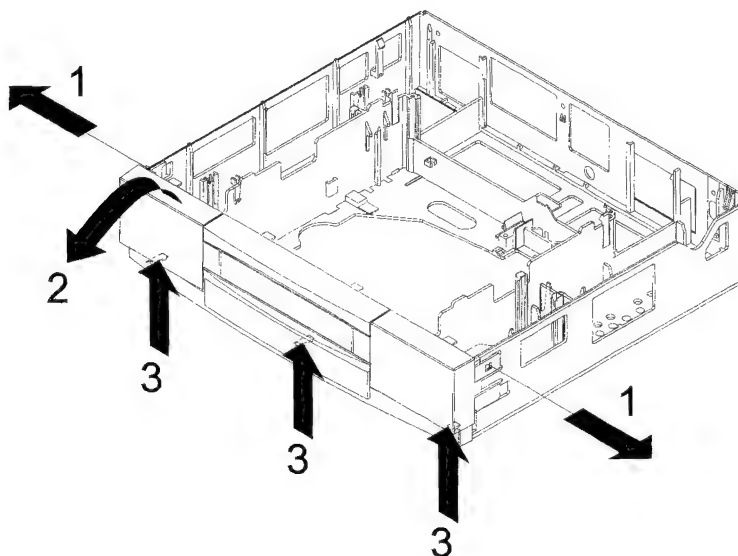

Fig. 3
- Press the front at the top slightly forward, release the 3 snap hooks at the bottom side of the front and pull forward (see fig. 3).